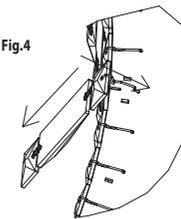

Fig.5
5. The lamp can switch between four color temperatures (3000k-3500k-4000k-5000K), which can be adjusted to your preference with the switch in the fixture(Fig.5).